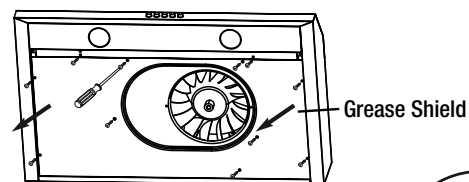

Fig. 12
- The damper and the adapter are located inside the range hood. To access these parts, remove the grease shield if you have not previously done so (see Fig. 12).
- Choose to install the damper (C) either in the top position (3A & B) for top venting or in the back position (5) for back venting. Adapter (D) is used for top venting only and installs in position 3A and 4.
- Attach damper (C) or adapter (D) over chosen knockout opening. Make sure the damper pivot is oriented on top such that the damper stays closed when not in use.
- Secure the damper (C) or adapter (D) to the range hood (A) with the short tapping screws (BB).
- Seal the damper (C) or adapter (D) to the range hood (A) on all four sides with duct tape.